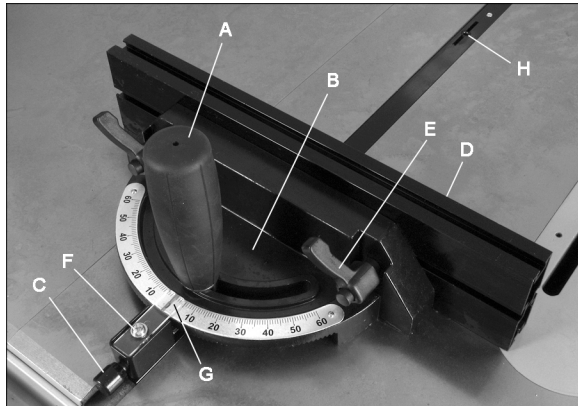

Figure 17
Refer to Figures 17, 18, 18B, and 18C.
2. Loosen lock handle (A, Figure 17) by turning counterclockwise.
3. Pull out spring-loaded knob (C) and rotate knob until body (B) of miter gauge is at desired angle as indicated on scale.
4. Tighten lock handle (A).
The Fence (D, Figure 17) can be adjusted by sliding to the right or left or removed entirely.
**NOTE:** The bar of the miter gauge has two slots with *set screws* (H, Figure 17). Adjust these set screws (4mm hex key) to eliminate any play between bar and miter slot.